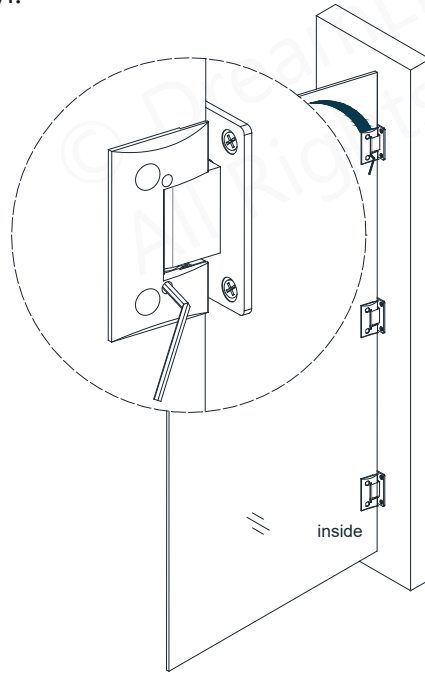

Fig 1b
3) Use the supplied Allen key to loosen the adjustment screws on the inside faceplates (**Fig 1b**), adjust the door to the desired closing angle (90° for example), then re-tighten the adjustment screws (**Fig 1b**). Be sure to create a tight seal with the strike vinyl when the door is in the closed position.